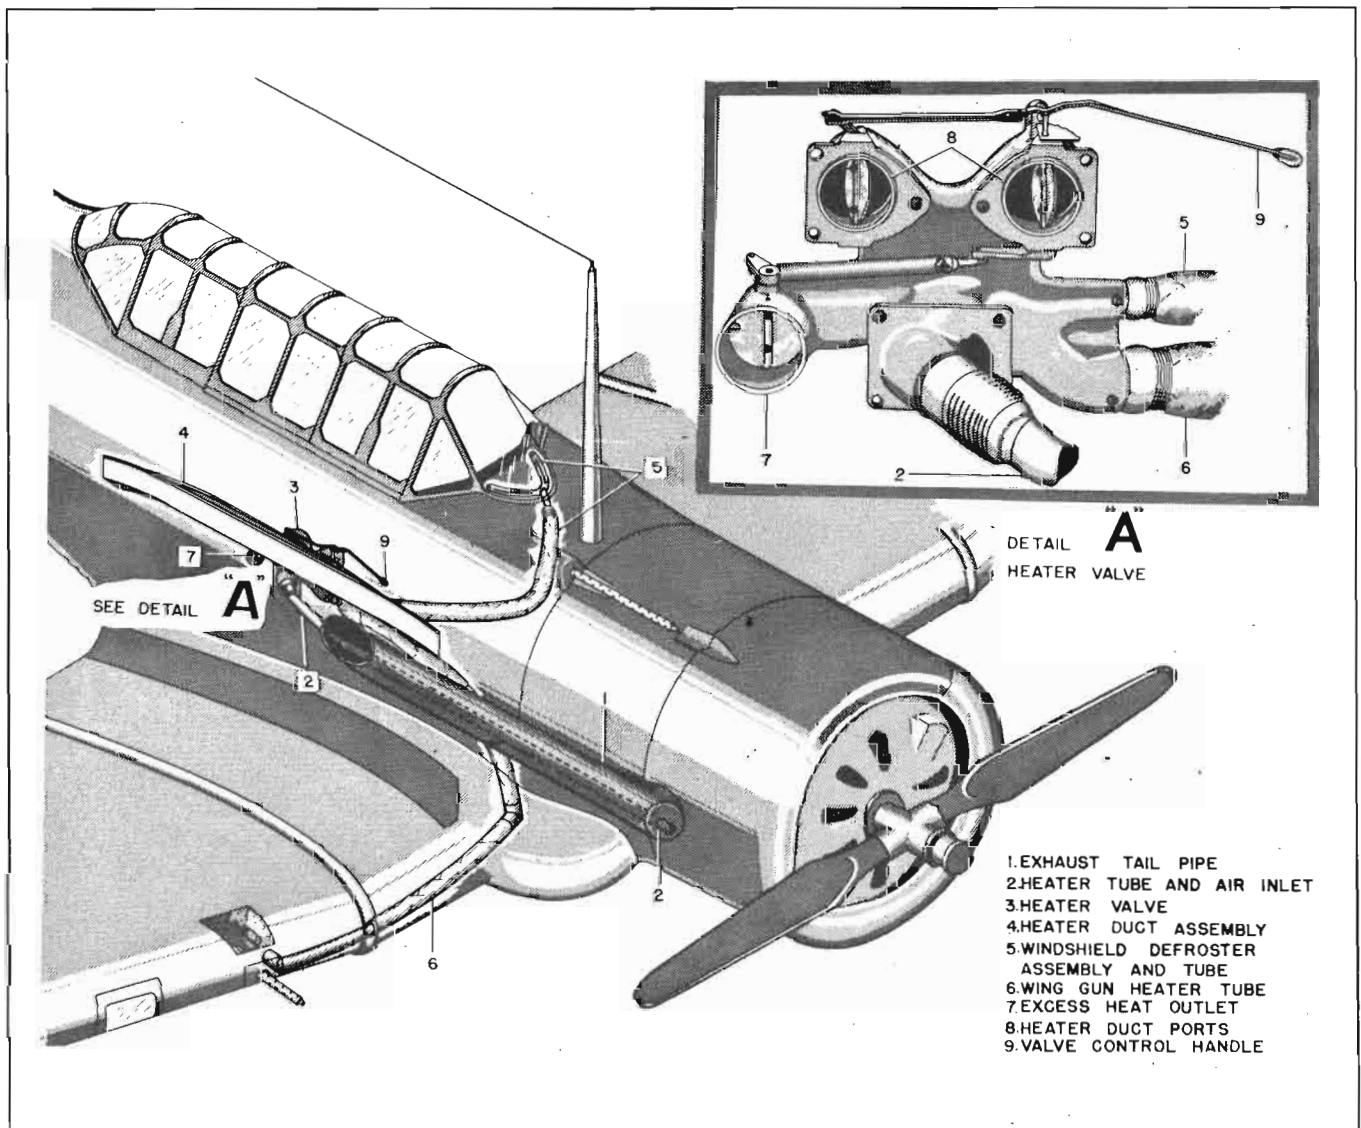

Figure 397 — Heating System Diagram
a. GENERAL.—(See figure 397.)—On airplanes provided with special winterization equipment, the installation of a British-type cockpit heating system not only sends air to both cockpits, but also defrosts the windshield and conducts heat to the wing gun bay to prevent congealing of oil on machine gun parts.
c. WINDSHIELD DEFROSTING. — (See figure 397.)—The windshield may be defrosted by means of a flexible aluminum-alloy tube which extends from the heater valve at the right side of the front cockpit to a semicircular nozzle at the base of the windshield. The tube is insulated with skyfelt and sends heat to the windshield by manual operation of the heater valve control handle.
d. WING GUN HEATING.—(See figure 397.)—Heated air is supplied to the wing machine gun by a flexible aluminum-alloy tube which extends from the heater valve in the front cockpit to the center section and from there to the gun's position in the right outer panel. The tube is insulated with skyfelt and terminates at its connection with a heater duct in the gun bay. Manual operation of the heater valve control handle sends heat through the tube.